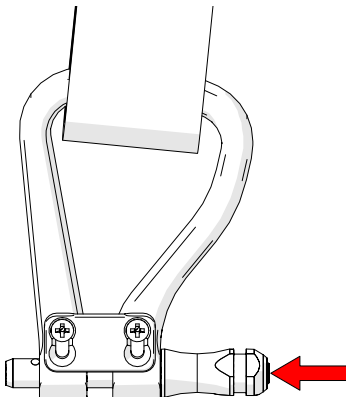
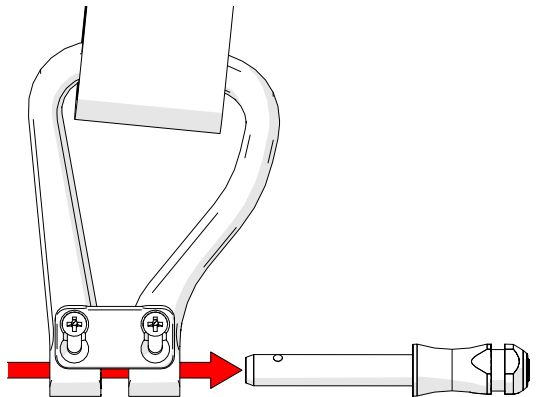

Fig. 76 - Press release button
Fig. 77 - Pull pin from
2. Simultaneously press the pin's release button (Fig. 76) and pull the pin from the shackle (Fig. 77).